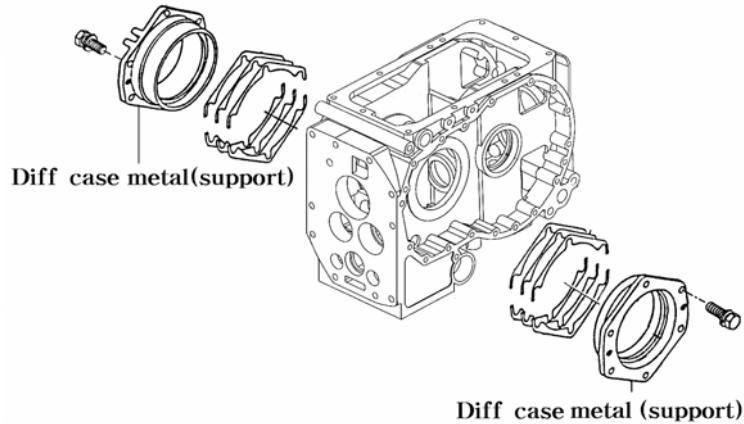

Fig.5-65
h. Backlash adjustment between the drive pinion and the ring gear (Fig 5-65)